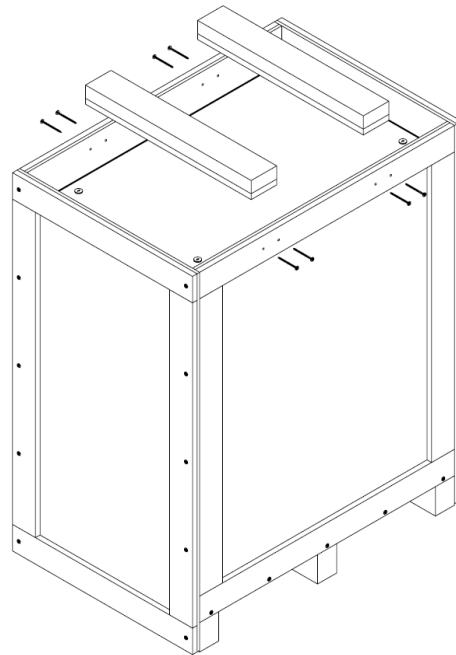
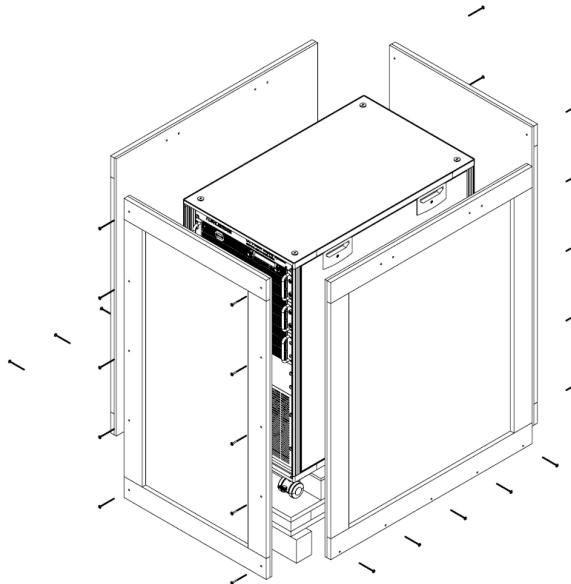

Figure 4-2: GSPS Unpack – Disassemble the reinforcing beams
Figure 4-3: GSPS Unpack – Disassemble the side reinforcing beams
4. Unscrew screws to disassemble the reinforcing beams as shown in Figure 4-2 and Figure 4-3.